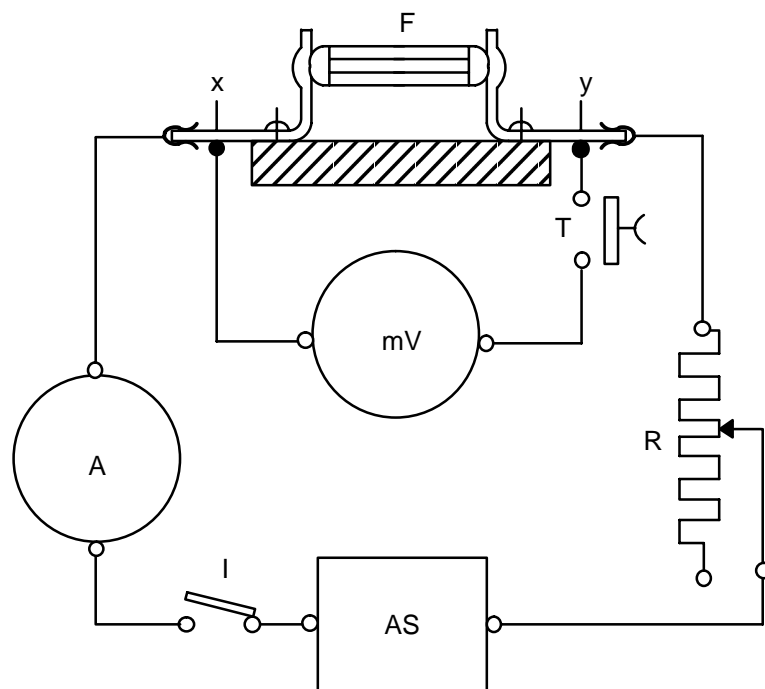

Figure 1
- 4.1 Set up test circuit as shown in **Figure 1** For ammeter circuits use leads of adequate cross section relative to test current and as short as possible ensuring efficient and reliable mechanical connection to the device under test.